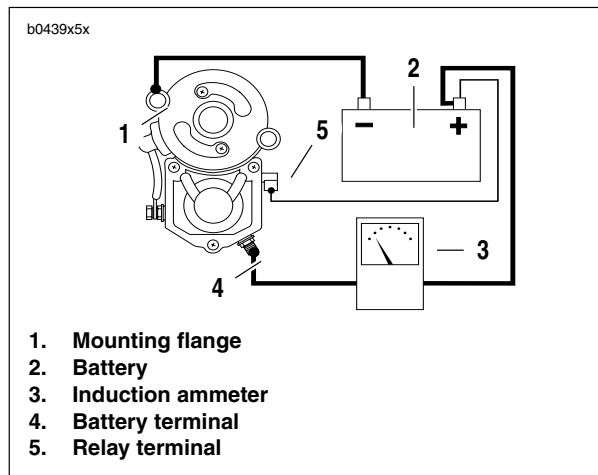

Figure 5-10. Free Running Current Draw Test
2. See Figure 5-10. Attach one heavy jumper cable (6 gauge minimum).
- a. To the starter mounting flange (1).
- a. To the positive (+) terminal of the battery (2).
- b. To an inductive ammeter (3). Continue on to the battery terminal (4) on the starter solenoid.
- b. To the solenoid relay terminal (5).